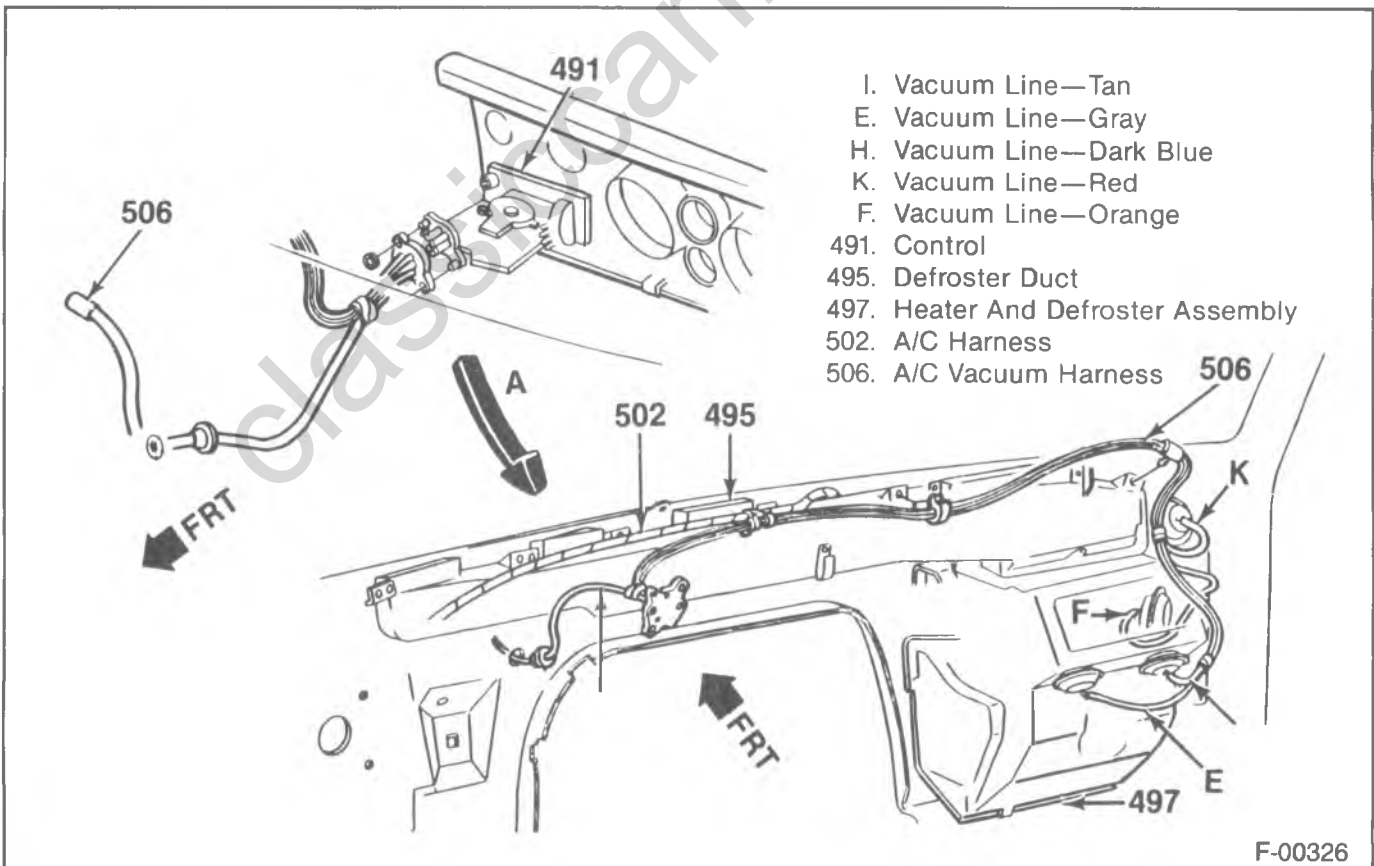

Figure 59—Vacuum Harness Assembly
6. Vacuum harness (506) (figure 59).